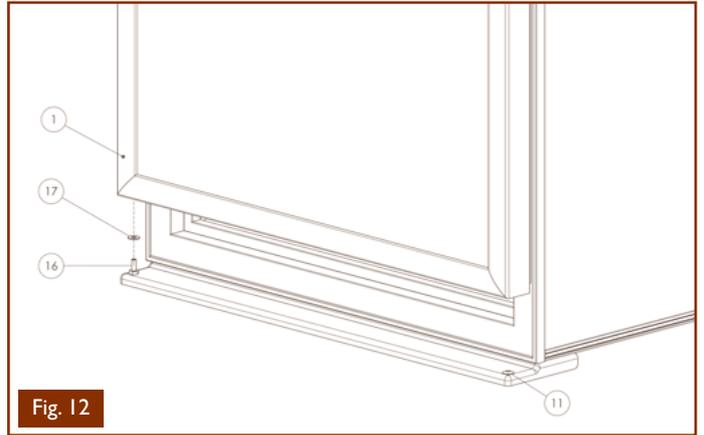

Fig. 12
- Replace the door (1) on its pivot guide (16), not forgetting the washer (17), see Fig.12